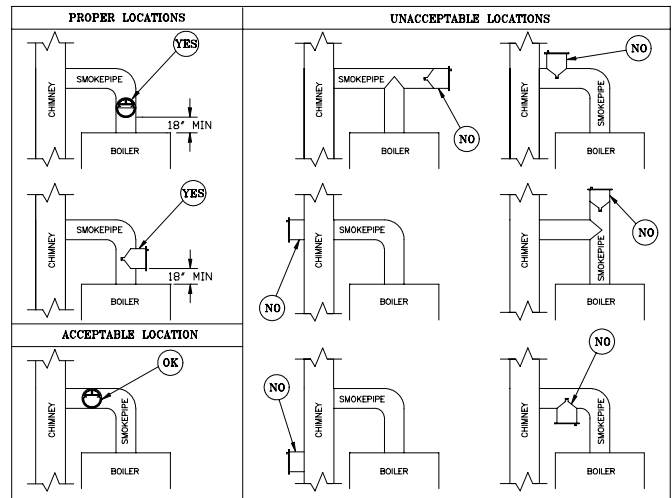

Fig. 14: Proper and Improper Locations of Draft Regulator
1. Install a draft regulator (supplied with boiler) following the instructions furnished with the regulator. See Figure 14 for alternate draft regulator locations.